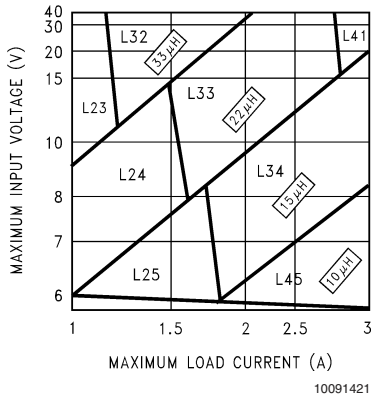
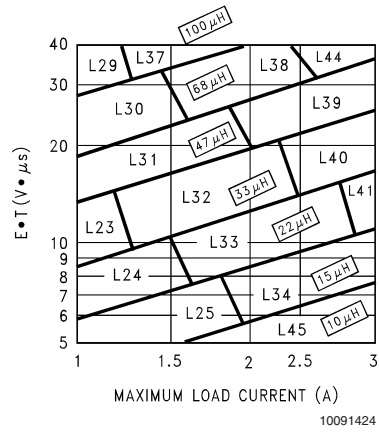

FIGURE 3. LM2676-3.3
FIGURE 6. LM2676-ADJ
Step 3: Determine the inductor required by using one of the four nomographs, *Figure 3* through *Figure 6*. Table 1 provides a specific manufacturer and part number for the inductor.
Step 5: Determine an input capacitor from Table 4 for fixed output voltage applications. Use Table 2 to find the specific capacitor type. For adjustable output circuits select a capacitor from Table 2 with a sufficient working voltage (WV) rating greater than $V_{in\ max}$, and an rms current rating greater than one-half the maximum load current (2 or more capacitors in parallel may be required).
Step 3: Use the nomograph for the 3.3V device, *Figure 3*. The intersection of the 16V horizontal line ($V_{in\ max}$) and the 2.5A vertical line ($I_{load\ max}$) indicates that L33, a 22 μH inductor, is required.
Step 3: To use the nomograph for the adjustable device, Figure 6, requires a calculation of the inductor Volt•microsecond constant (E•T expressed in V• μ S) from the following formula:
Using Figure 6, the intersection of 27V• μ S horizontally and the 2A vertical line (I_{load} max) indicates that L38, a 68 μ H inductor, should be used.
Important Note: When using the adjustable device in low voltage applications (less than 3V output), if the nomograph, Figure 6, selects an inductance of 22 μ H or less, Table 6 does not provide an output capacitor solution. With these conditions the number of output capacitors required for stable operation becomes impractical. It is recommended to use either a 33 μ H or 47 μ H inductor and the output capacitors from Table 6.